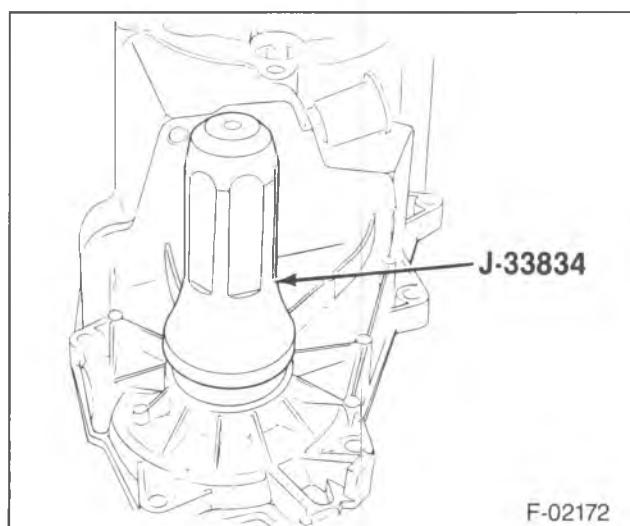

Figure 24—Front Output Shaft Seal Installation
- Front output shaft front bearing (54) using J 33833 and J 8092. Press the bearing until the tool bottoms in the bore.
- Front output shaft bearing retaining snap ring (53) in the case.
- Front output shaft seal (52) using J 33834 (figure 24).
- Input main drive gear seal (46), using J 33831.
- Spacer (75) on the shift sector shaft.
- Shift sector (74) in the transfer case.
- Oil seal (57).
- Retainer (58).
- Shifter lever (59).
- Nut (60).